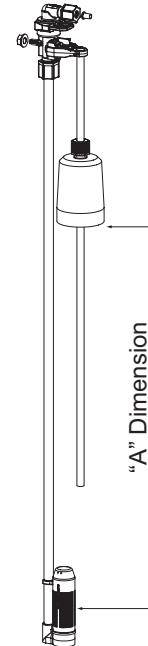

Figure 19.
4. Slip the white nut over one end of the tubing and press the plastic insert into the end of the tubing (Figure 19). Connect to the brine connection on the valve and tighten nut.
The Culligan Gold Series™ unit contains a brine float which can serve as a backup refill shutoff in the event of a failure, such as a power outage when in the refill position. For standard applications the float does not need to be adjusted. The only time there is a benefit to setting an “A” dimension is if the Pre-Rinse feature is used. The Pre-Rinse shifts the valve to fast rinse (which is also refill) – the lowered float keeps from over filling the brine tank. The float level should be set based on the salt dosage setting. Refer to Figure 19.